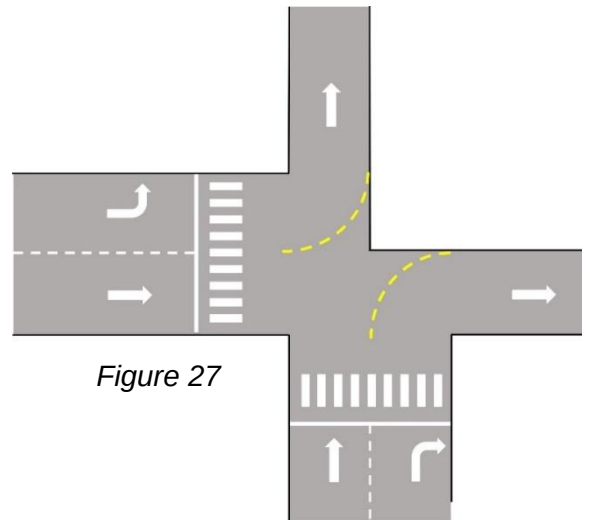

Figure 27
- “Traffic Light Layout for Assembly” **Figure 27**